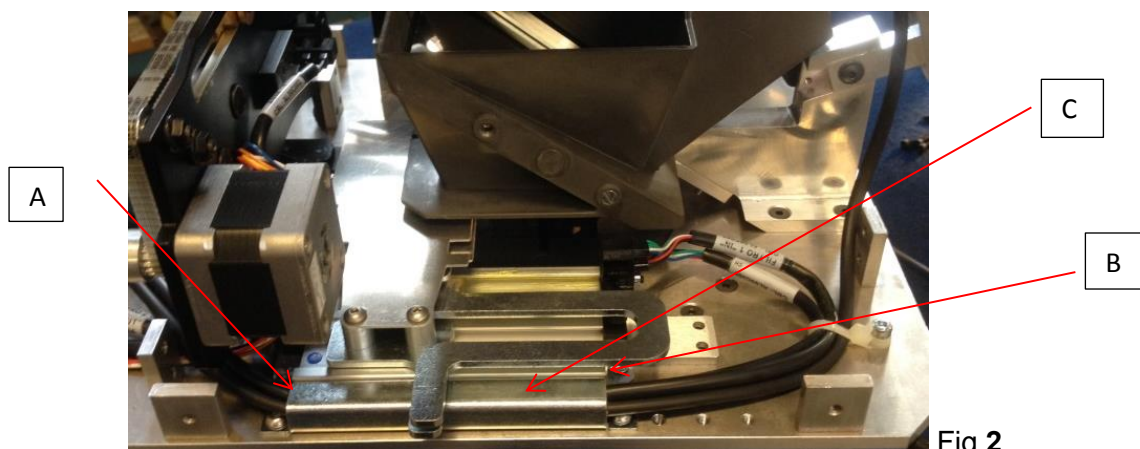

Fig 2
4. Loosen the screws **A)** and **B)** as shown in fig.2, and loosen the cable case **C)** as shown in fig.2.